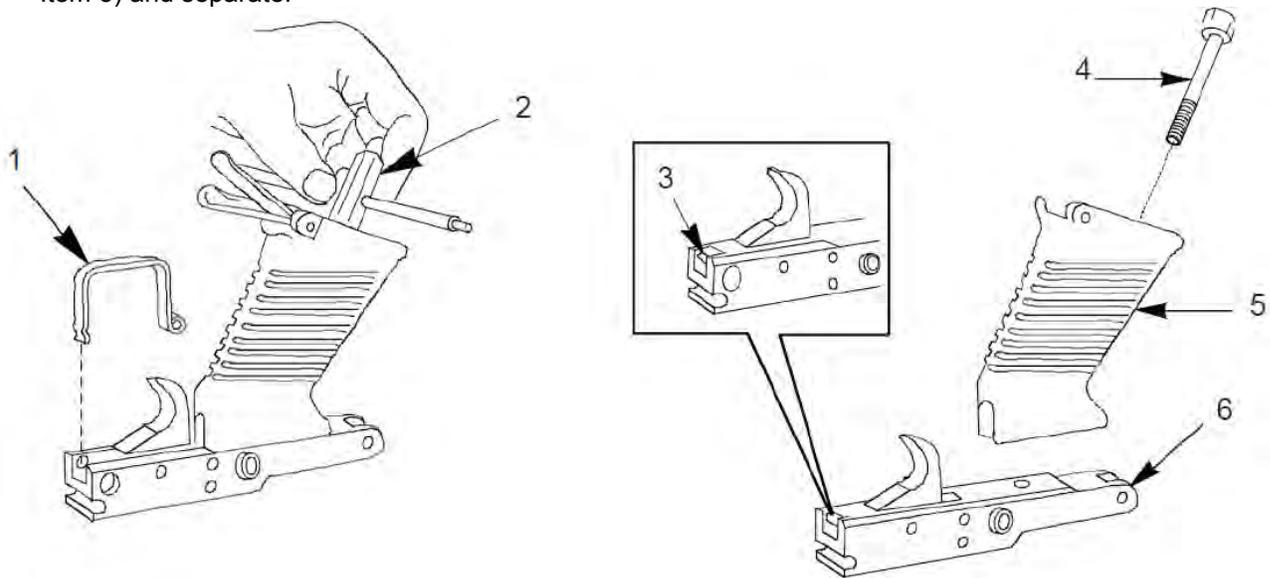

Figure 1. Machine Bolt, Grip, Trigger Guard
1. Apply rearward pressure to front of trigger guard (Figure 1, Item 1) until it clears spring pin (Figure 1, Item 3) and separate.
2. Visually inspect trigger guard (Figure 1, Item 1) and replace if bent or cracked.
3. Using 11mm end of box spanner wrench (Figure 1, Item 2) remove machine bolt (Figure 1, Item 4) and pistol grip (Figure 1, Item 5) from trigger mechanism (Figure 1, Item 6).
4. Visually inspect pistol grip (Figure 1, Item 5) and replace if cracked or broken.
5. Visually inspect trigger mechanism (figure 1, Item 6) for missing parts, damaged holes, or burrs. Inspect for bent, broken, or improperly assembled sear spring. The leg of the sear spring must be behind the trigger pin to function properly and not between the trigger and the trigger pin. Replace or repair if trigger mechanism is damaged, incomplete, or improperly assembled.